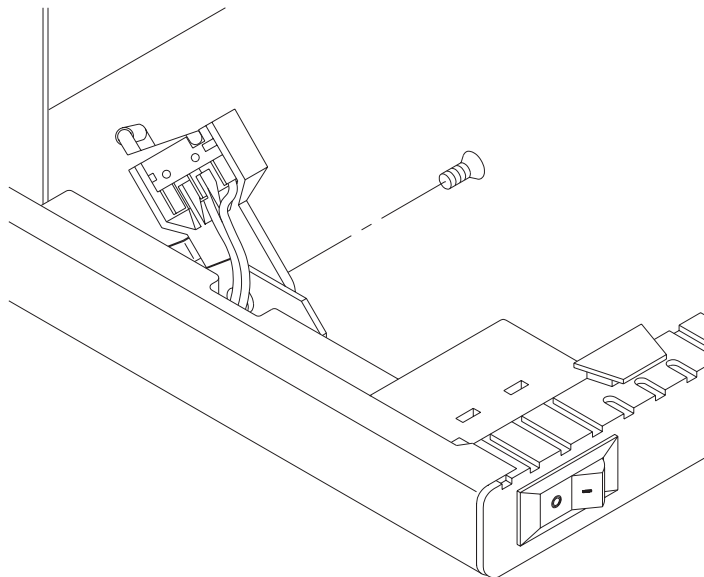

Figure 21-1 Door switch plate
4. Locate the door switch plate at the base of the CHS, as shown in Figure 21-1. Detach the plate's cable from the connector labeled "J9" on the VMC card, which is located behind the chassis wall. (See Figure 14-1 for an illustration of the VMC card connections.) Leave the cable attached to the door switch plate.
4. Rotate the plate so it rests on the metal stop near the CTS, as shown in Figure 21-1. Using a T-15 bit, replace the screw (#6-32  $\times$   $\frac{3}{8}$ -inch crest cup machine screw). Tighten the screw to 8.0 inch-pounds of torque (9.2 kg-cm).